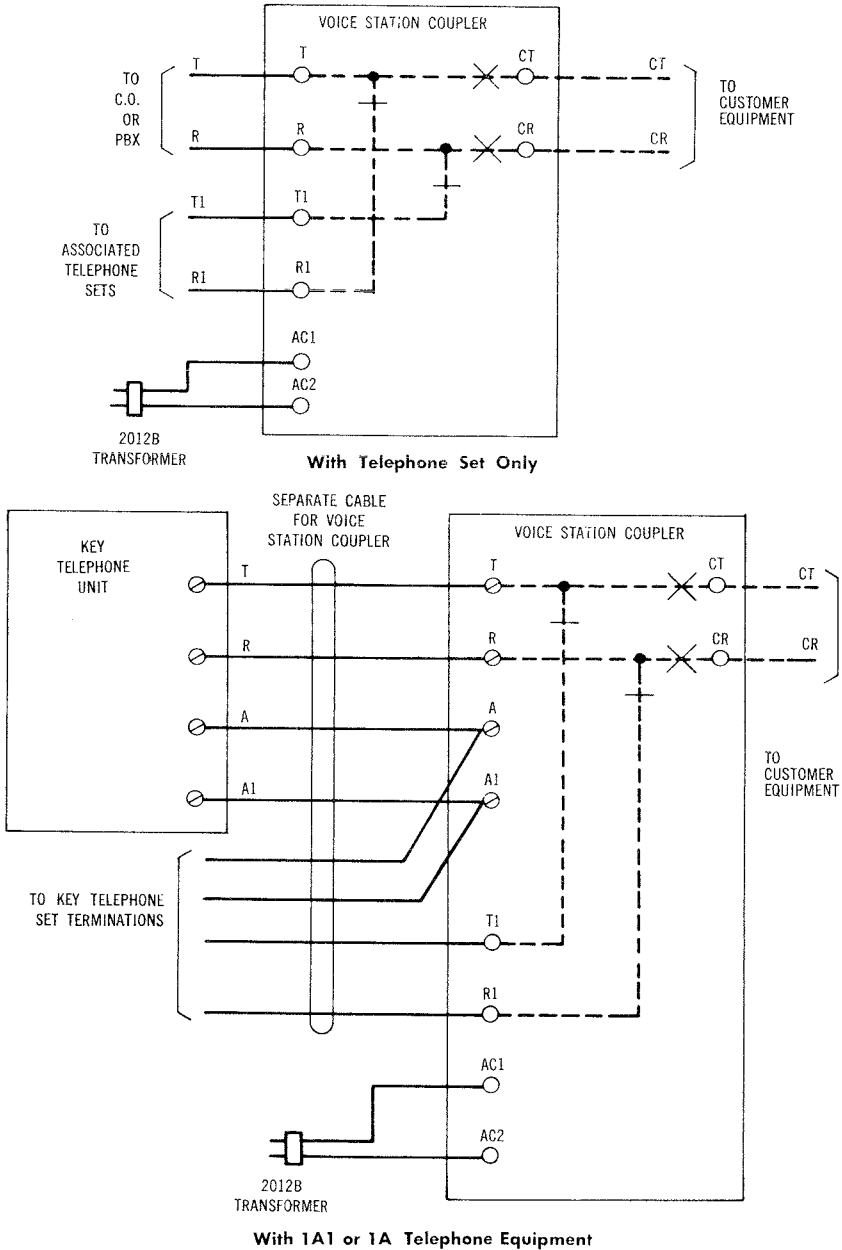

Fig. 5 - "Voice Station Coupler" Electrical Schematic
3.09 Connect the 0 and 1 button key type telephone sets and call directors with a voice station coupler as shown in Fig. 5.
- 3.12 Connect the 2012B transformer to AC1 and AC2 terminals as shown in Fig. 5.